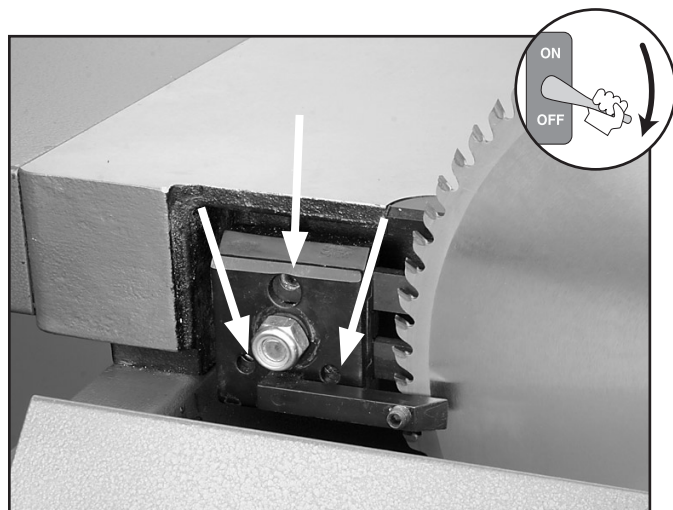

Figure 37. Set screws for adjusting riving knife.
10. Use the set screws shown in **Figure 37** to adjust the riving knife bracket, so the riving knife aligns with the main blade when re-installed.